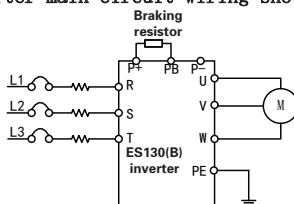

Figure3-10 Main circuit standard wiring diagram
ES130(B) inverter main circuit wiring showing as Figure3-10